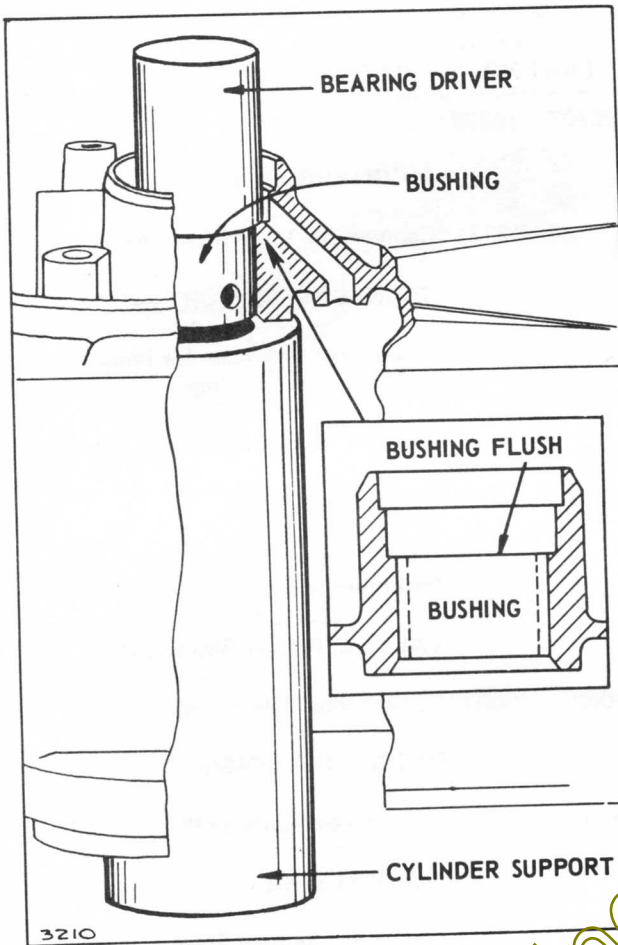

FIGURE 9-7
- b. The bushing must be flush with the rim of the bearing bore. See figure 9-7.